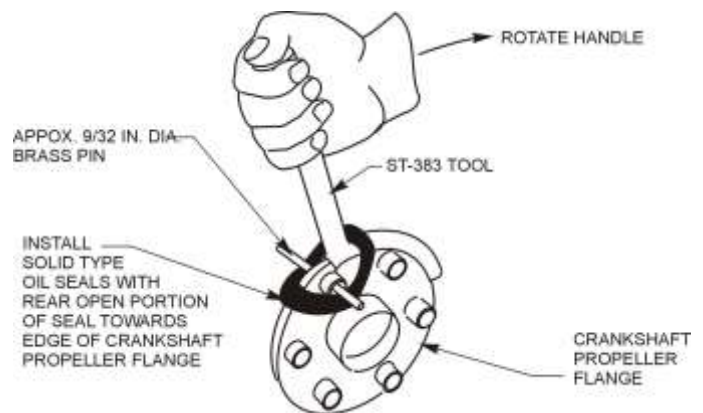

Figure 51
- (7) Put a brass pin approximately 9/32 in. diameter by 3 in. (7 cm) long through the crankshaft propeller flange bushing to hold both sides of the seal in place as shown in Figure 51.
- (9) Install the Crankshaft Oil Seal Installation Tool ST-383 under the seal and over the edge of the crankshaft propeller flange as shown in Figure 51. Use even pressure with your hand, carefully turn the tool to force the oil seal over the crankshaft propeller flange and use care not to damage the seal.
- (10) Install the internal spring as follows: